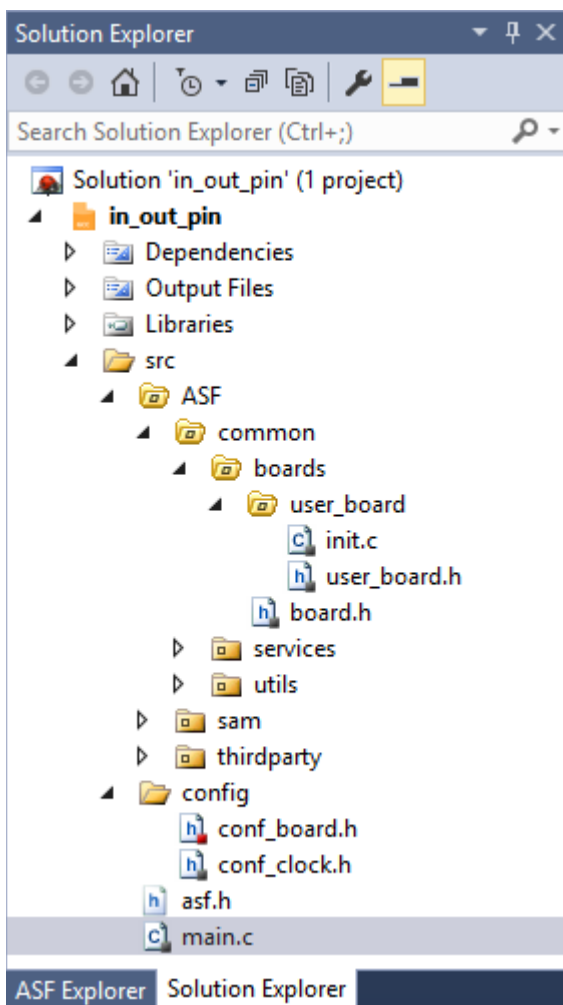

Figure 1: Atmel Studio Solution Explorer
6. Use Solution Explorer (figure 1, page 2) to open **src ► config ► conf\_board.h** and add definitions for the clock resonators and oscillator start-up time, e.g.